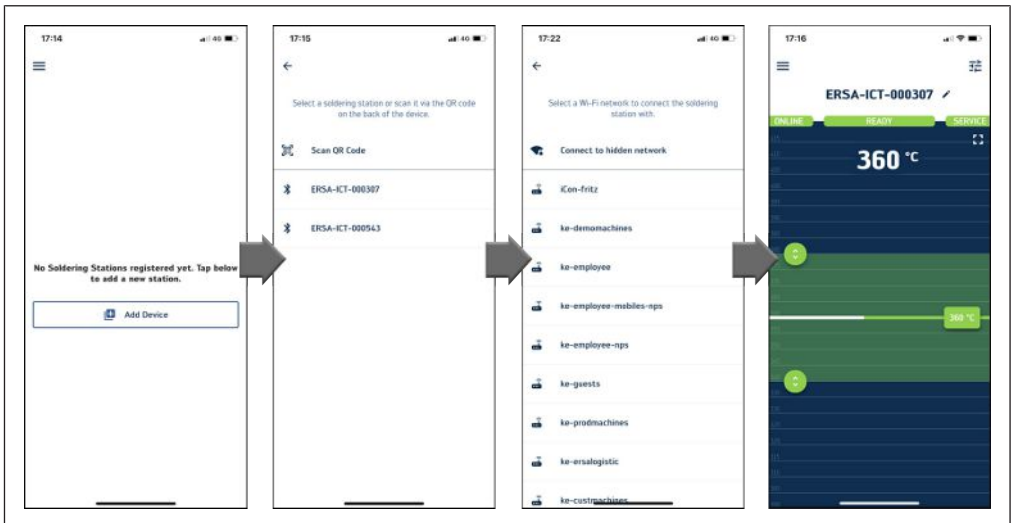

Fig. 13: Bluetooth connection: Scanning the QR code of the soldering station or selecting the Bluetooth network
- d) Press and hold the release lever [1] (see Fig. 13).